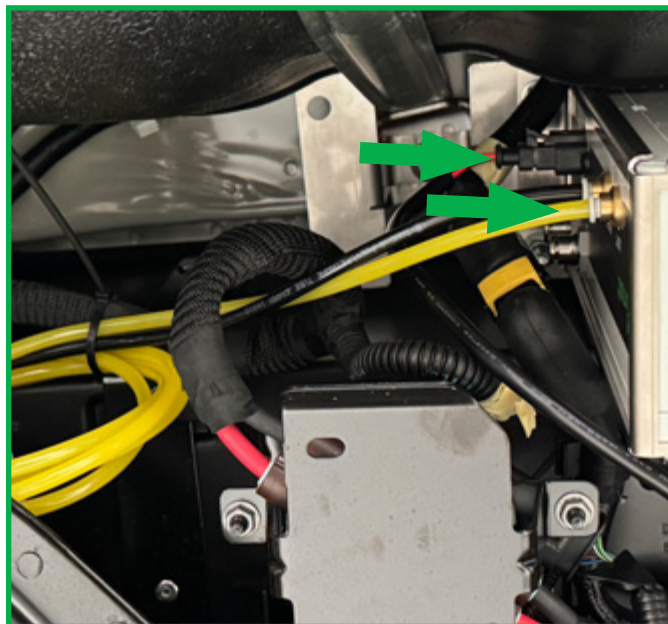

FIGURE 10
11. Connect the air tubes and power supply. Route the power supply cable from the connected box to the inside of the OE battery case. Connect ground (black wire) to – pole of the battery, connect power with the fuse holder to + pole of the battery. After both power supply wires are connected to the battery poles, insert the provided Fuse. (Figure 10)